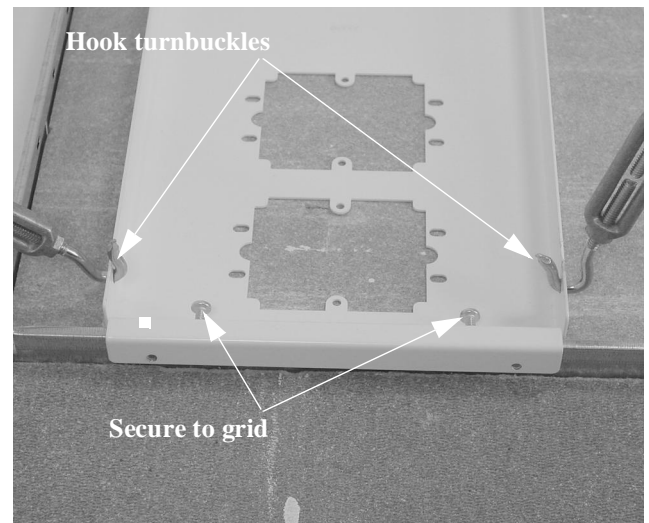
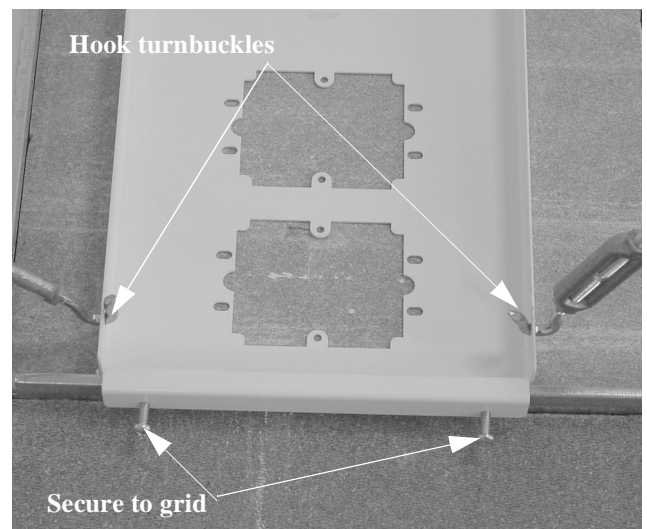

Figure 2. Bracket Attachment for USA/SAE
Figure 3. Bracket Attachment for Europe/Metric
7. Place the ceiling tray into the 24 x 24 in. (600 x 600 mm) or 24 x 48 in. (600 x 1200 mm) opening in the ceiling in place of a ceiling tile, or mount the tray above the ceiling (see Figure 2 for SAE applications or see Figure 3 for metric applications).
8. Using four 10 x 24 x 5/8" Phillips-head self-tapping screws in the inside four holes for SAE applications (see Figure 2) or in the outside four holes for metric applications (see Figure 3) of the ceiling tray, clamp the ceiling tray to the ceiling runners.